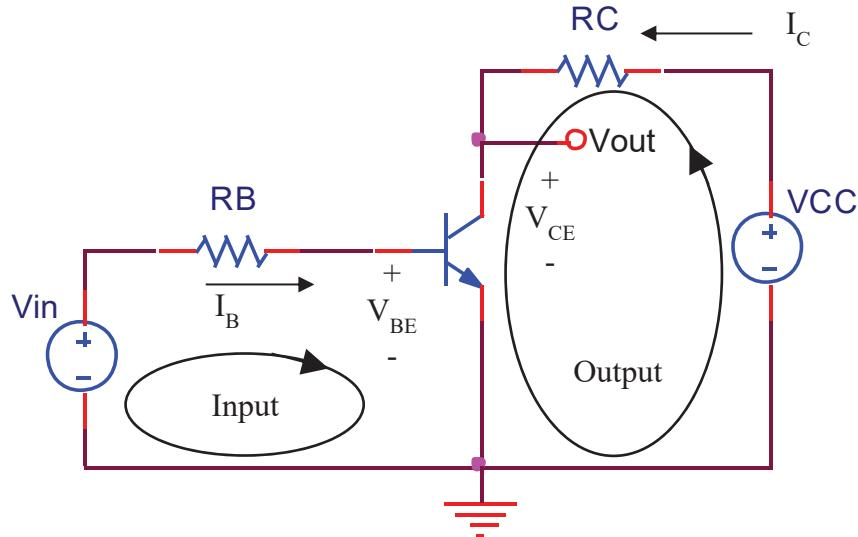

Figure 9.6: Common emitter circuit
Consider the circuit shown in Figure 9.6. In this circuit you can see two loops, an input loop and an output loop. The transistor in this circuit is configured with a common emitter connection (CE) which means that the emitter leg of the transistor is common to both the input and output loops. We can write KVL around both loops.
(I would prefer figure 9.6 goes here!!!)